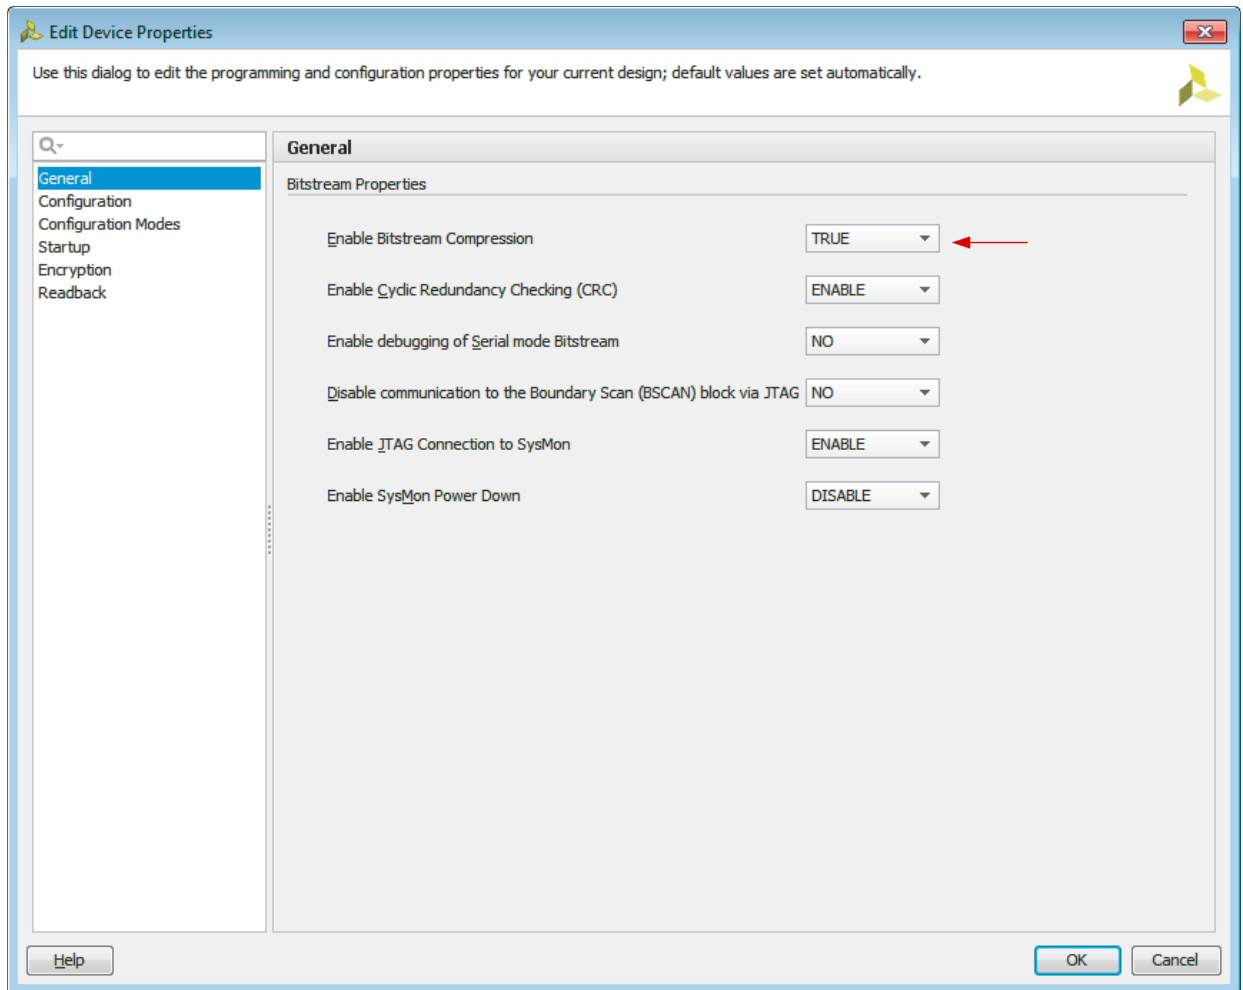

Figure 8: General Options for Configuration Bitstream Settings
3. In the General category shown in the left of Figure 8, set the **Enable Bitstream Compression** as **TRUE** to reduce programming and configuration time in general. This setting is optional and does not guarantee reduced configuration times.